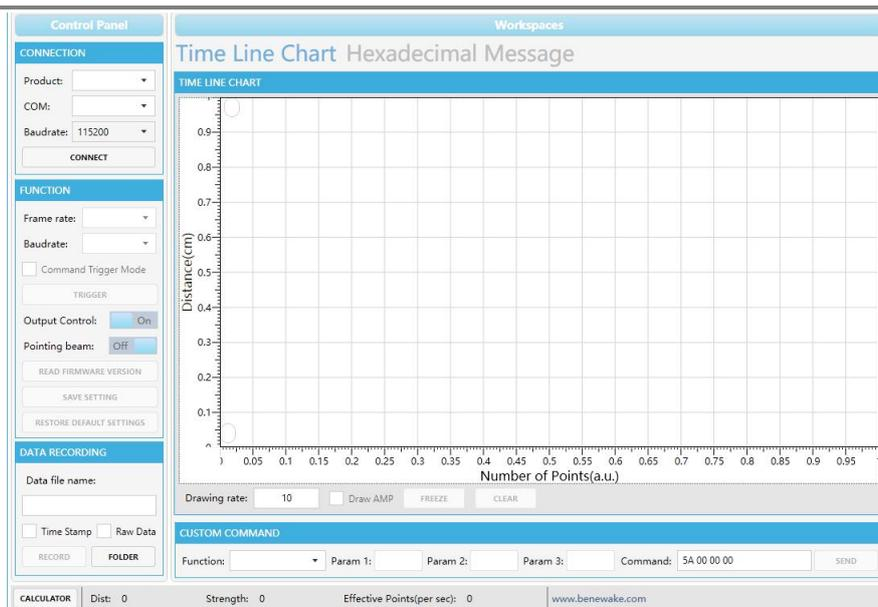

Figure 14 SentiAcu testing GUI for TF series
- See *Figure 14 SentiAcu testing GUI for TF series* for of the GUI.